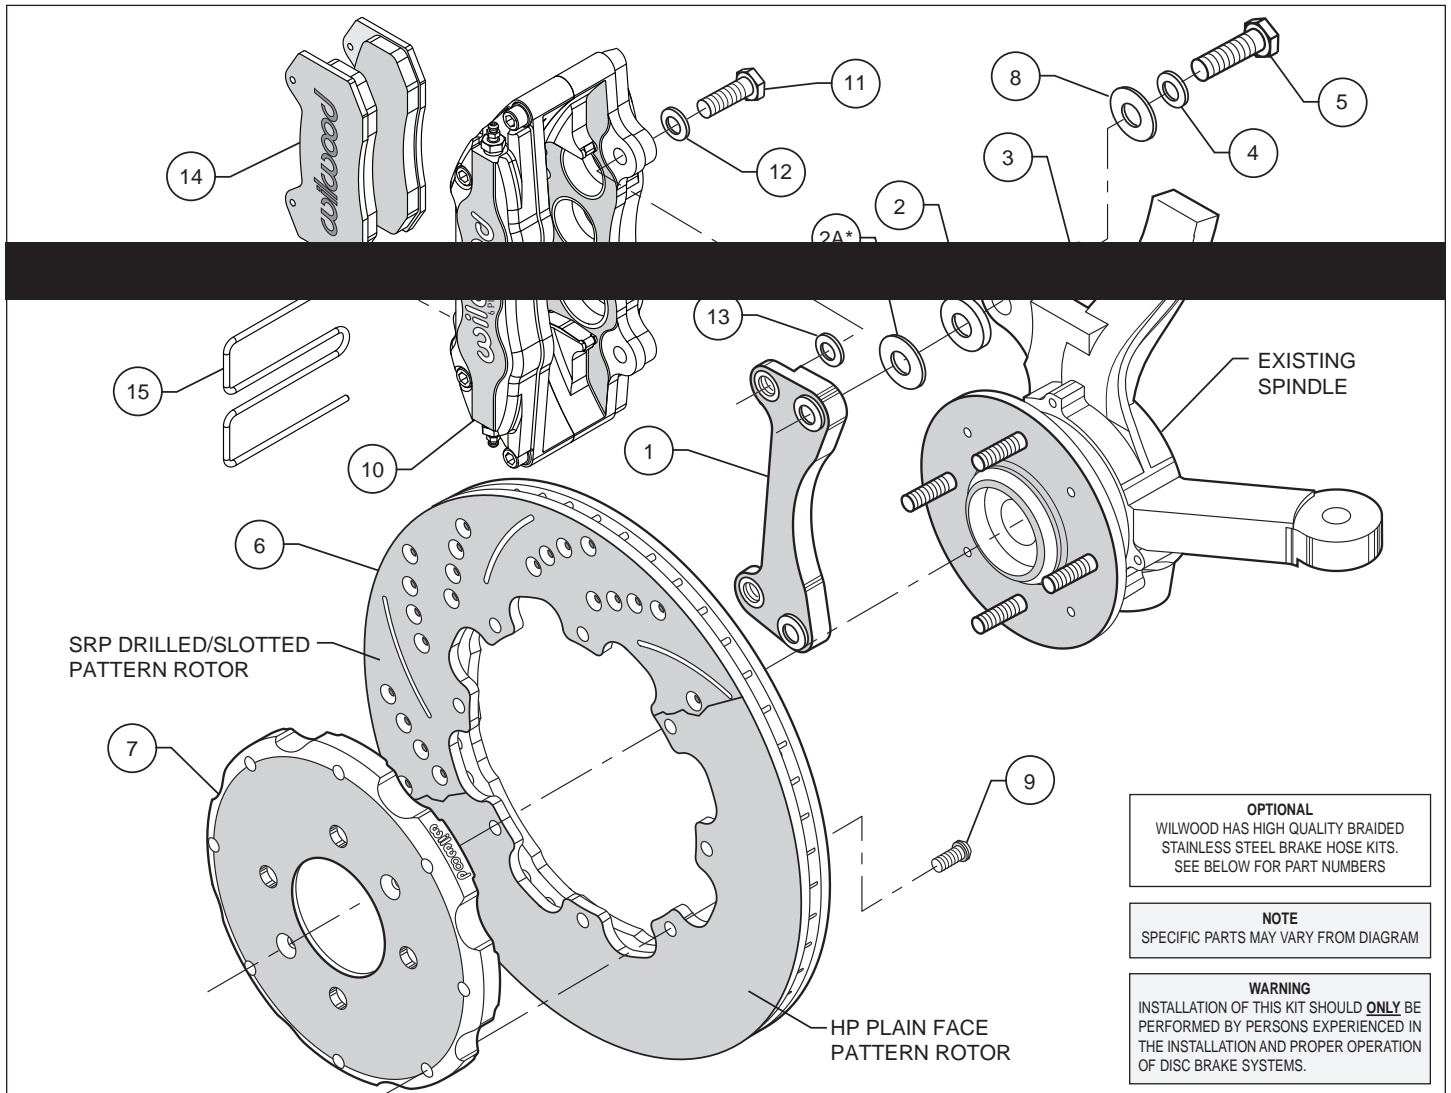

Figure 1. Typical Installation Configuration, Left Hand Application Shown
- Insert one sleeve (3) each into the holes on the top and bottom of the spindle “ears” where the OEM caliper bracket was removed. Apply red *Loctite*® 271 to the mounting bolt threads (5) before installation of the caliper mounting bracket (1). Install the bracket with the flanged heads of the clinch nuts facing outboard, as shown in Figure 1. Slide bolt (5) through washer (4) and shim (8) into the previously installed sleeve (3) from the backside of the spindle. Position .125 thick spacer (2) [and (2A) for 2001 Honda Civic only] between the spindle and the bracket. Torque bolts to 60 ft-lb..
- With the larger I.D. side of the rotor (6) facing away from the hat (7), attach rotor (6) to hat (7) using bolts (9) as shown in Figure 1. Using an alternating sequence, remove bolts (9) one at a time, apply red *Loctite*® 271 to the threads, and torque to 25 ft-lb.